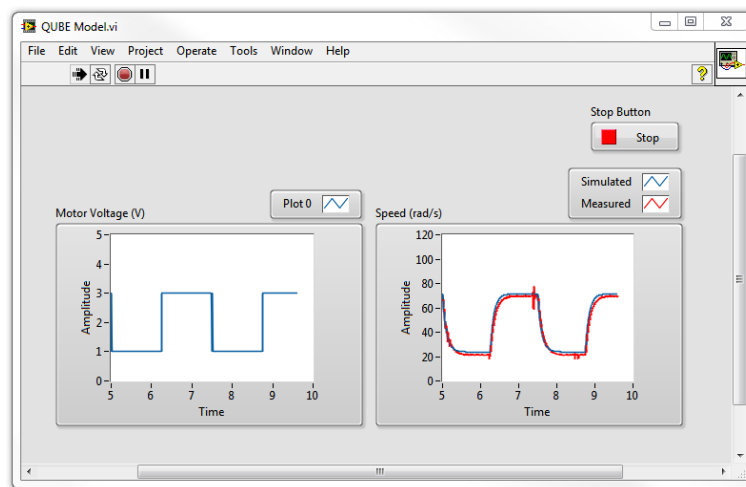

Figure 5.3: QUBE-Servo Measured and Simulated Responses
3. Run the VI with your QUBE-Servo model. The scope response should be similar to Figure 5.3. Attach a screen capture of your scopes. Does your model represent the QUBE-Servo well? Explain.